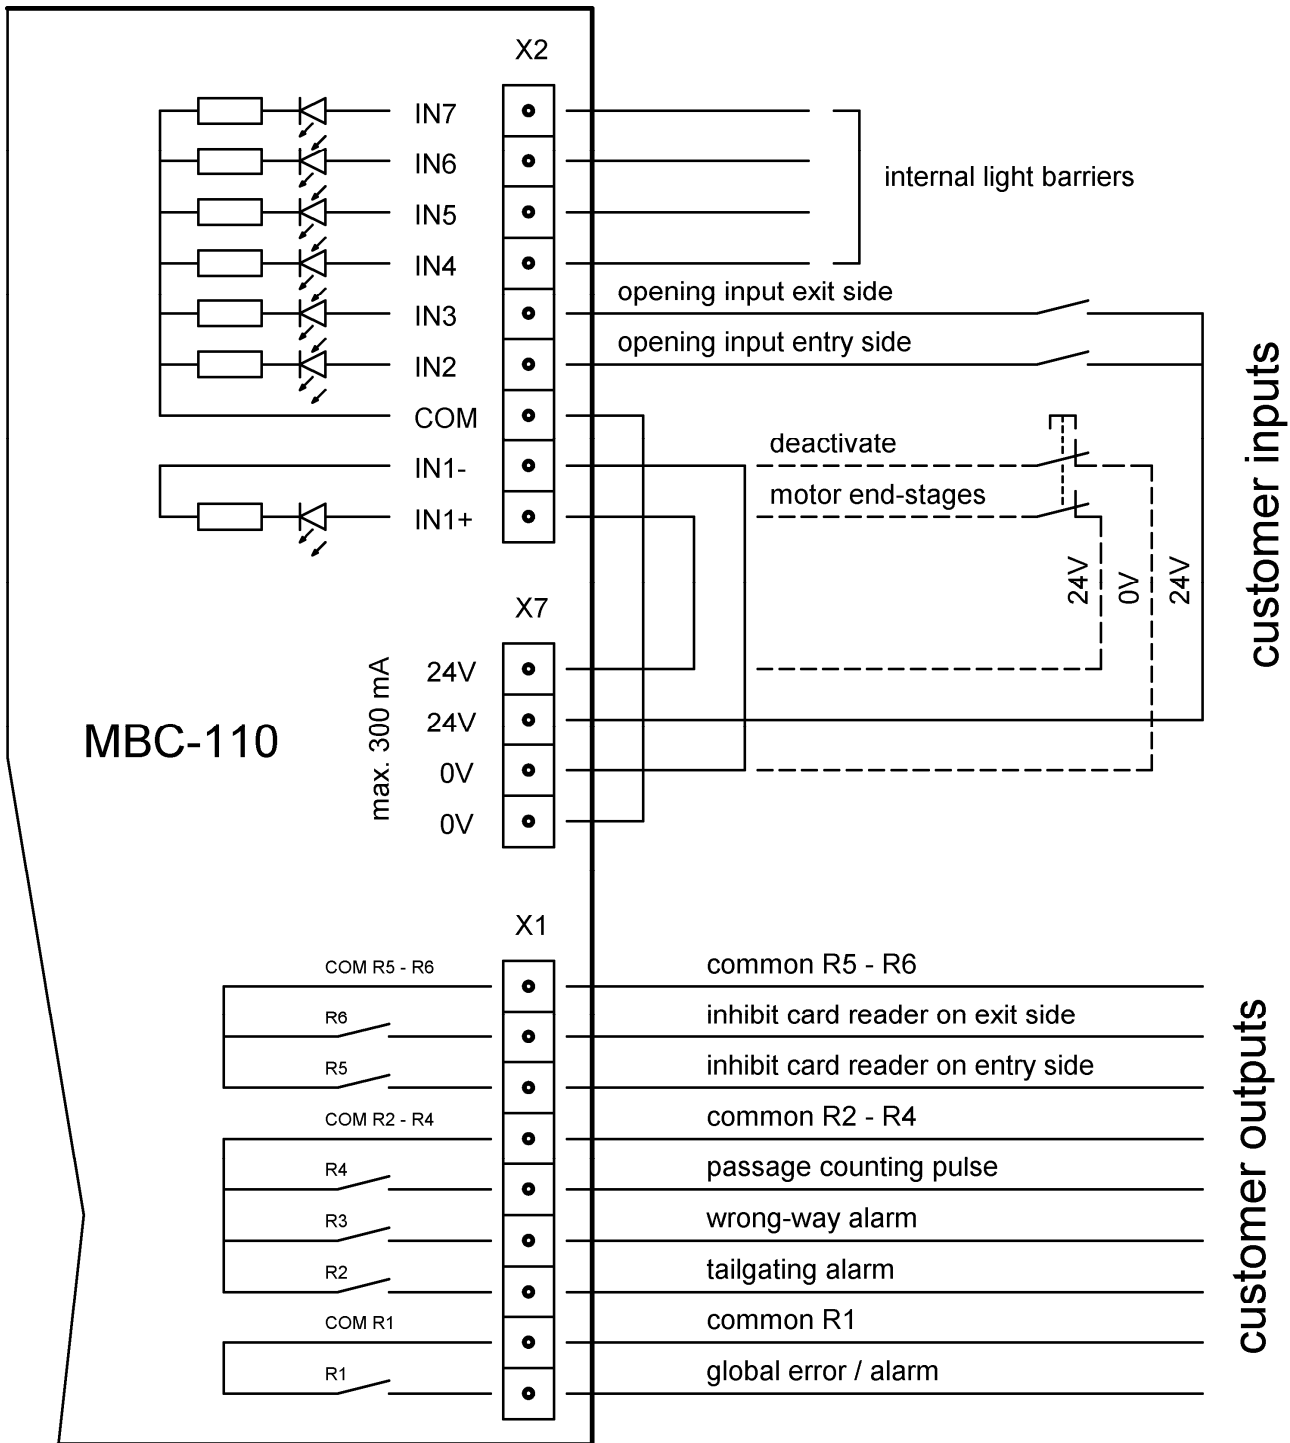

Fig. 21: MBC-110, connecting diagram customer's side
4. Wire emergency input according to Fig. 21 and Fig. 23.